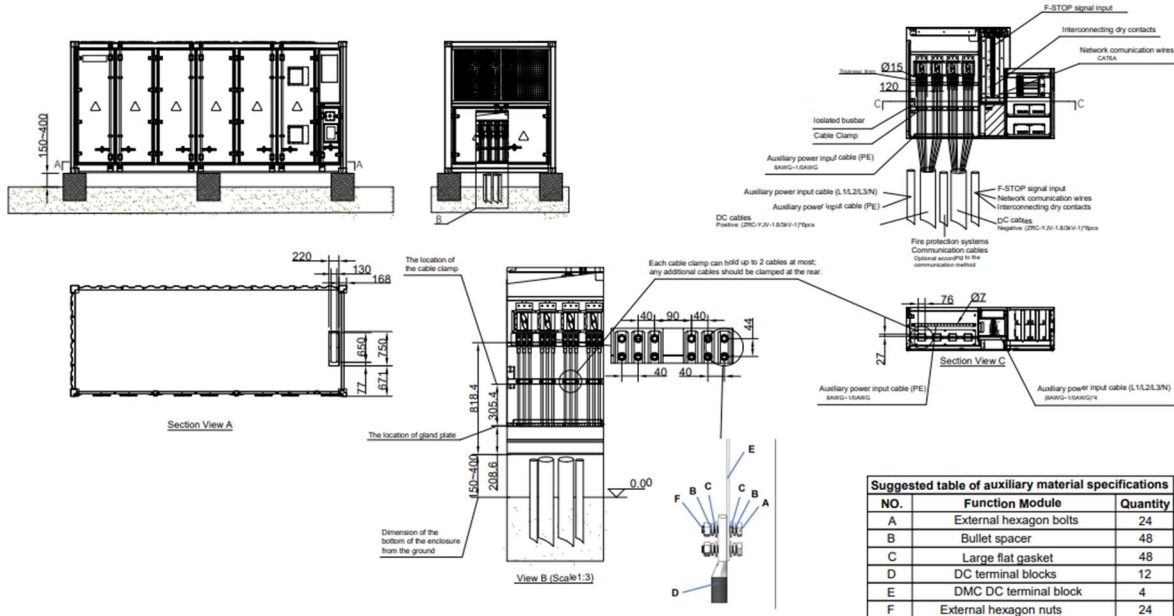

Figure 10: Foundation Conduit Stub-ups (Centralized PCS)
- ✓ Step 5: Remove from trailer and set on foundation were indicated by location markings. Take special care to ensure conduit stubs enter the SolBank3.0 series in the correct location. See Figure 10. Conduits will penetrate special glands in the SolBank3.0 series which prevent ingress of animals, insects and external debris. Add shim as required until level.